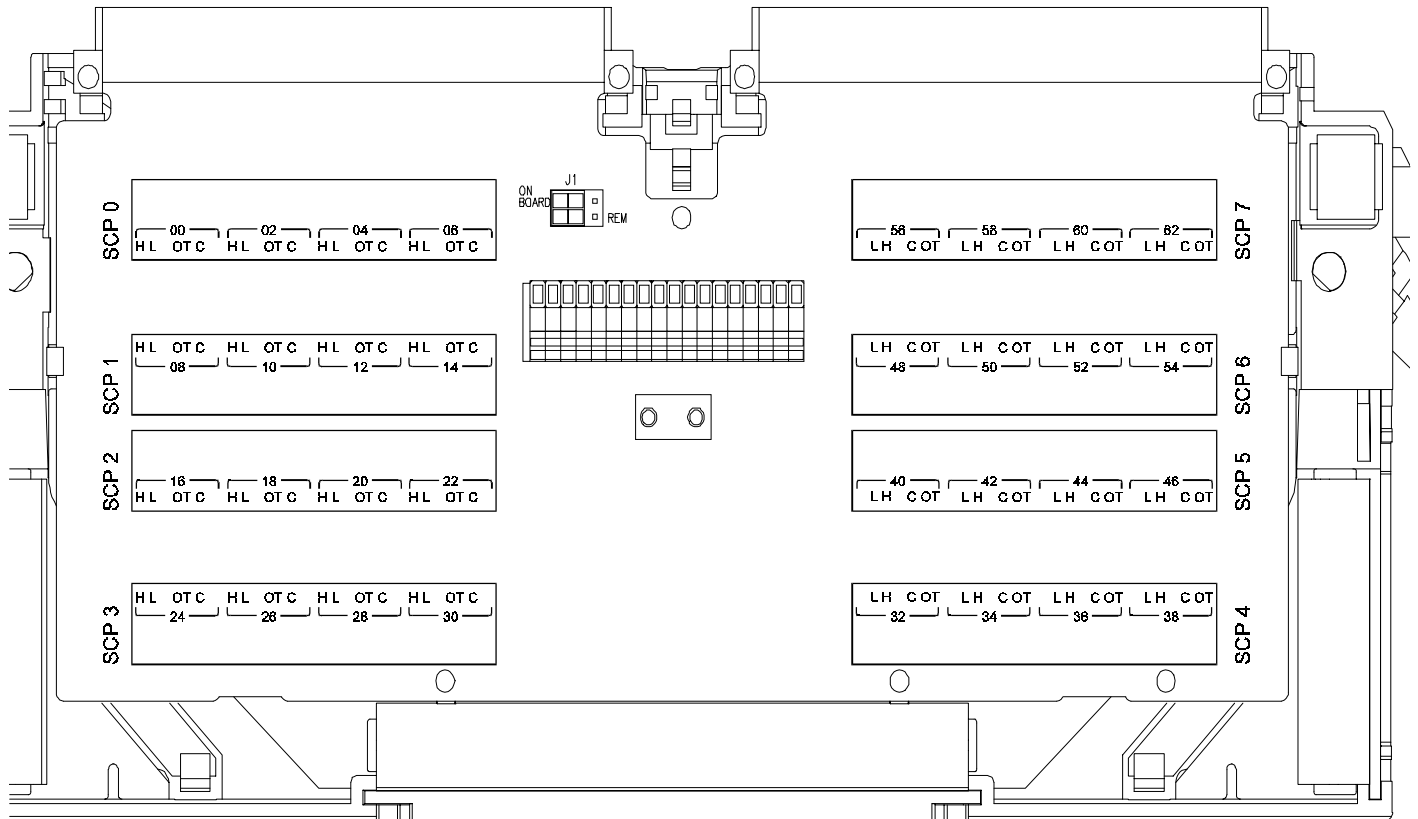

Figure 1 HP E1516/17 C-Size Terminal Module Connections
- For HP E1413C and above as well as the HP E1415A Terminal Modules, use the E1516-84304 labels. The connections are shown in Figure 1.